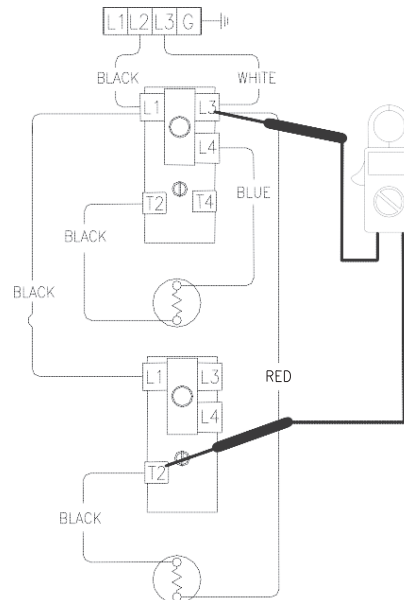

Figure 40
6. Check across terminal L3 of upper thermostat and T2 of lower thermostat (see Figure 40).